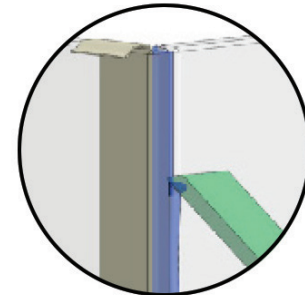

FIG 15.
- Spray channels and glass with slightly soapy water then use spatula provided to clean off excess silicone (**FIG 15**). Repeat this process 3 times. Use minimal water then wipe off with paper towels. Tough Wipes or Baby Wipes are also good to use for this.